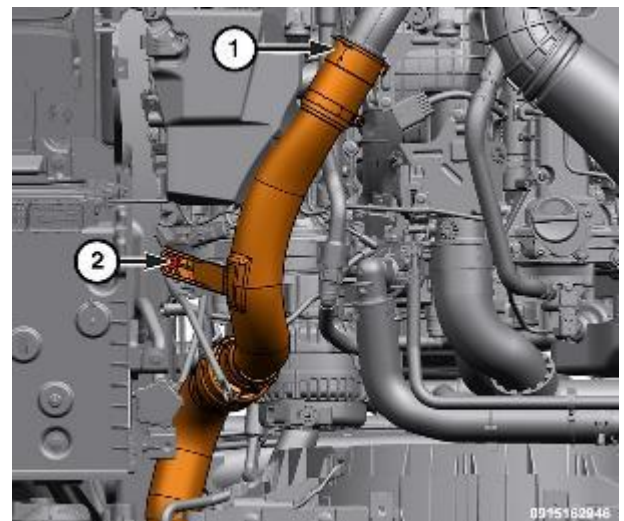

Figure 188 – Charge Air Cooler (CAC) Hose
28. Remove the Charge Air Cooler (CAC) hose bolt (2) securing the CAC hose to the support bracket (Figure 188).
29. Release the retaining clip (1) and disconnect the CAC hose from the turbocharger elbow and position aside (Figure 188).